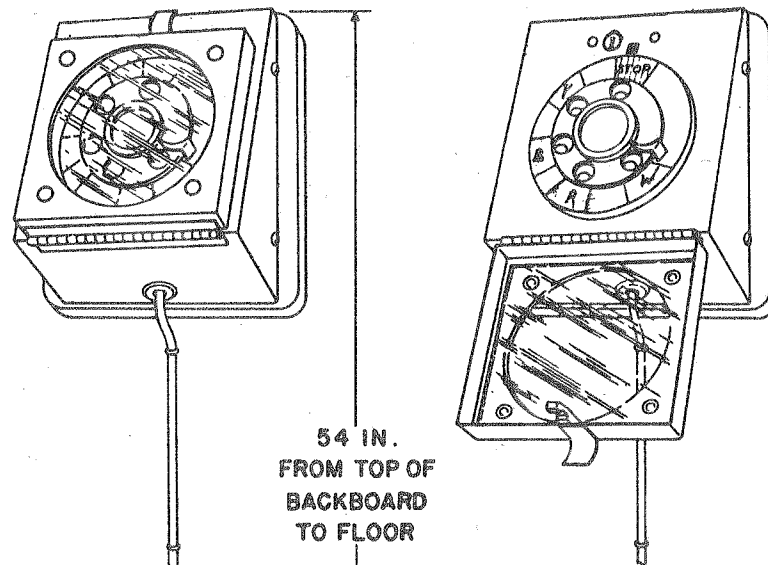

Fig. 1 - Wall-mounted Dial Assembly
2.03 When the dial assembly is wall-mounted, its location should be unobstructed (Fig. 1).